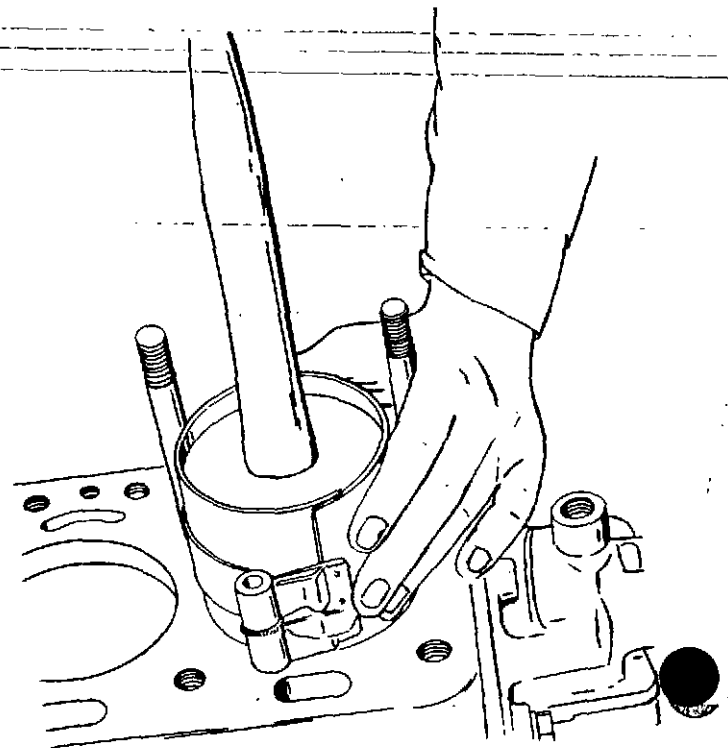

Figure 5-36. Piston Installation
9. Use a ring compressor to compress the piston rings to facilitate installation of the piston and rod assemblies. With the connecting rod bearing cap and bearings removed from the connecting rod, insert the piston from the top of the cylinder block. Use a hammer handle or block of wood against the top of the piston to push the piston into the cylinder bore. See figure 5-36. Take care that the connecting rod is in line with the crankshaft journal and will not score it.